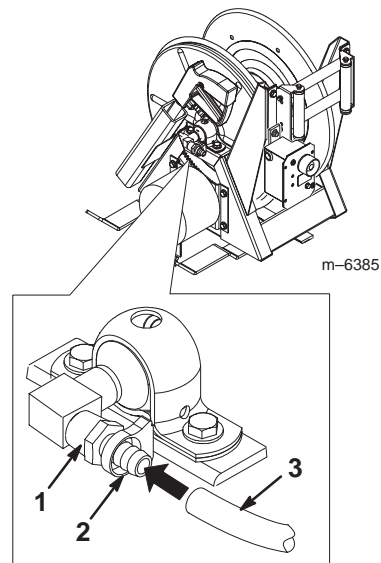

Figure 17
18. Wrap Teflon tape counterclockwise around the threads of a barbed fitting (1/2 inch) and install it into the inlet port on the side of the hose reel (Fig. 17).
20. Connect the end of the hose to the fitting on the hose reel (Fig. 17) and secure both ends with 2 small plastic hose clamps.